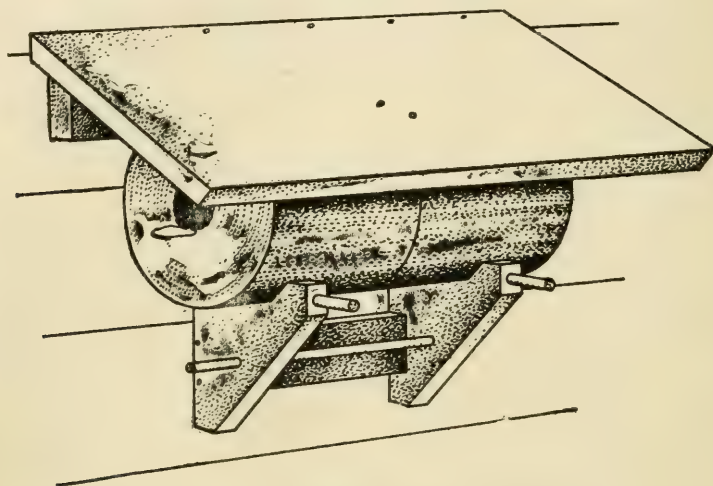

FIG. 491. — A Wall Bracket Bird Ark.
**A Wall Bracket Bird Ark** (Fig. 491). This is constructed in the same way as the ark described above, and the shape of the brackets and arrangement of perch sticks is clearly shown in the illustration.